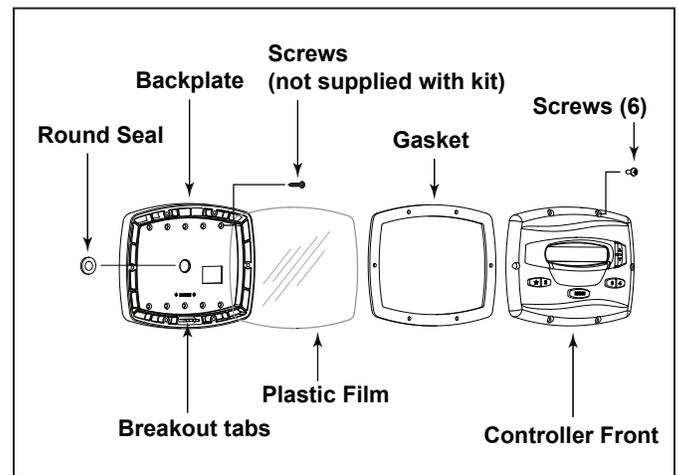

Figure 3. Controller Components
The ePump controller assembly (See Figure 3) contains the following components:
3. Drill out the plastic film covering the backplate screw holes. See Figure 3.
3. A minimum of two (2) fasteners (installer supplied) are required when installing to a flat wall to hold the controller securely.
4. The backplate has ten (10) mounting holes to choose from. Only drill out the plastic film from the holes to be used. See Figure 3.
6. At the bottom of the backplate, cut the two (2) tabs out with an appropriate tool, such as a carton cutter or an exacto knife, and route the cable through the open channel.
5. Attach the four (4) wires in the RS-485 cable to the RS-485 connector. Make sure the colors match the positions on the connector. See Figure 3.
For the ePump, the 4-position dip switch is located at the rear of the pump, as shown in Figure 3.